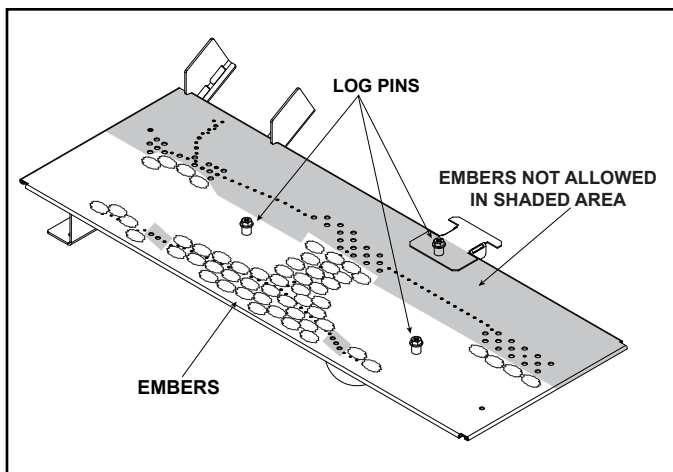

Figure 2. Log Pin and Glowing Ember Locations
- Locate the glowing embers and install them as shown in Figure 2. Do not install any glowing embers on the back row of burner ports. Glowing Embers can be placed directly over burner ports; however, for optimal front flame height, place glowing embers around the burner port clusters indicated by the "arrows" shown in Figure 8.